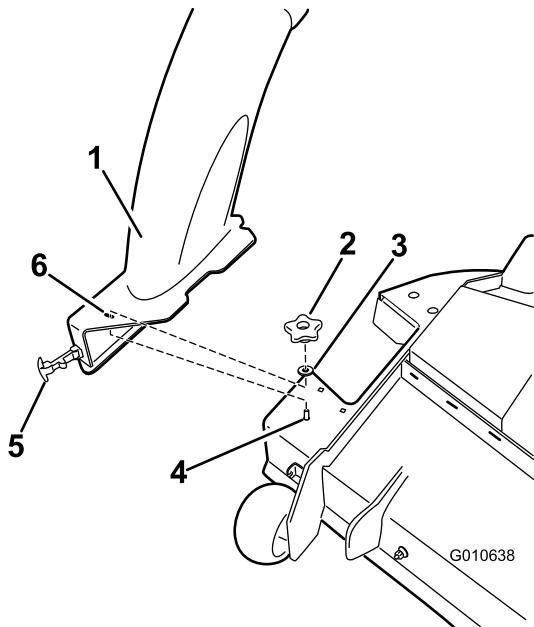

Figure 7
5. Install the chute to the mower deck making sure the opening in top of the chute aligns with the exposed post on the mower deck top (Figure 7).